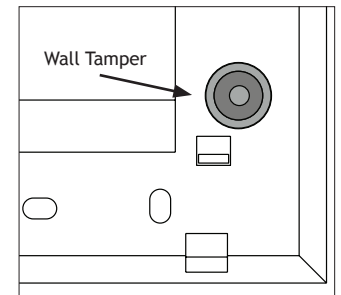
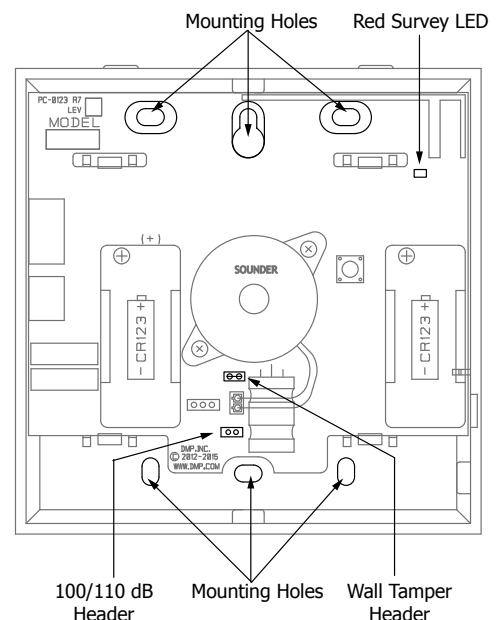

Figure 2: Wall Tamper
Figure 3: Mounting Holes and PCB Features
The 1135 is equipped with a case tamper and a wall tamper. See Figure 2. A two position header is provided to disable the wall tamper. See Figure 3. To disable the wall tamper, place the jumper across the two pins of the header. Disable the wall tamper if mounting using the supplied double-sided tape.
The siren is equipped with a 100/110 decibel (dB) jumper and a two-position header to change the decibel output. The siren is shipped at the 110 dB output level with the jumper placed on one pin for storage. If the 100 dB setting is required, place the jumper over both header pins. See Figure 3.
The 1135 siren's LED survey capability allows one person to confirm communication with the receiver. The PCB Red Survey LED turns on brightly whenever data is sent to the receiver then immediately turns off when the receiver acknowledgement is processed. See Figure 3.
2. Install the included two 3.0V Lithium CR123A batteries. See Figure 3.
3. Mount the 1135 on a flat wall. Use the supplied screws in the mounting hole locations shown in Figure 3, and insure the wall tamper makes proper contact with the wall. Or, if using the supplied double-sided tape to attach the siren to the wall, be sure to disable the wall tamper.
3. Place the two CR123 batteries in the holders and press into place. See Figure 3 for the battery locations.